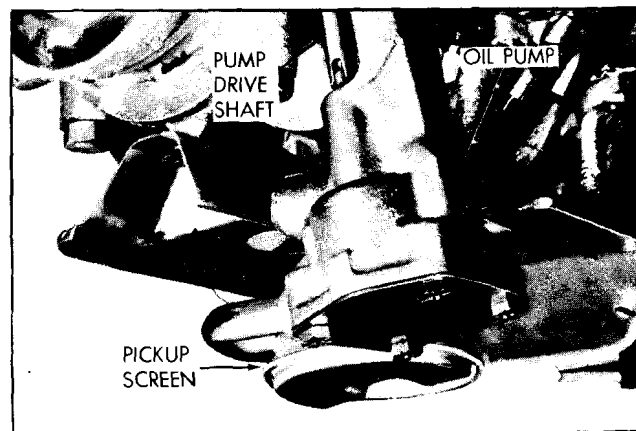

Fig. 6-138 Oil Pump and Oil Pump Drive Shaft
2. Remove oil pump attaching bolts while holding oil pump in place. Carefully lower oil pump away from block with one hand while removing oil pump drive shaft with other hand (Fig. 6-138).